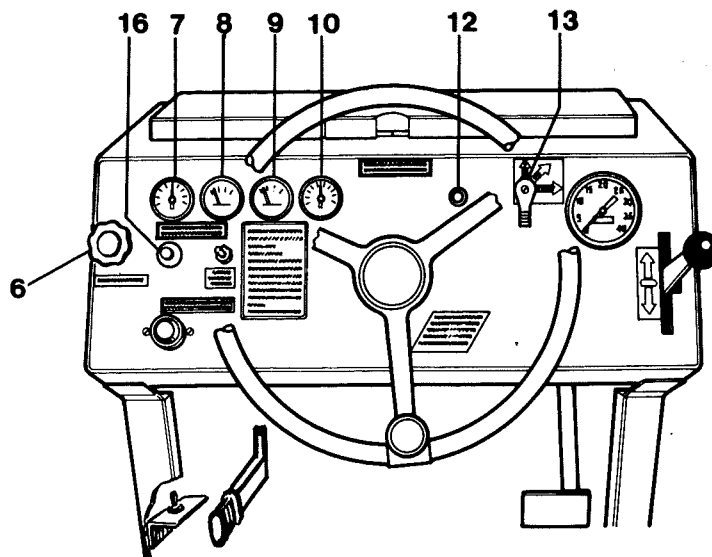

Fig. 4
- 4 Warm up the engine by running it at 800-1000 rpm (14) for 2-10 min, depending on the air temperature.
- 5 While warming up the engine, ensure the ammeter (10), fig. 4, points to + and that the oil pressure warning lamp (16), fig. 4, has gone out.